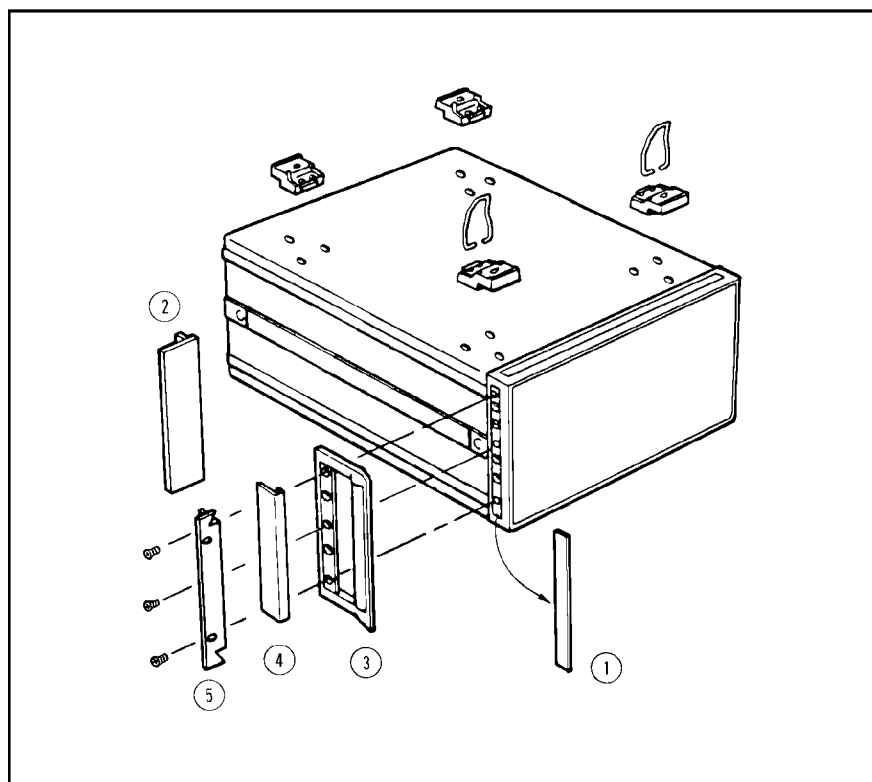

Figure2-3. Rack Mount Kits Installation
The analyzer can be rack mounted and used as a component in a measurement system. Figure2-3 shows how to rack mount the 4192A.
1. Remove the adhesive-backed trim strips ① from the left and right front sides of the 4192A. (Refer to Figure2-3.)
2. Attach the front handles ② to the sides using the screws provided.
3. Attach the trim strips ③ to the handles.
2. Attach the rack mount flange ④ to the left and right front sides of the 4192A using the screws provided.
3. Remove all four feet ⑤ (lift bar on the inner side of the foot, and slide the foot toward the bar.)